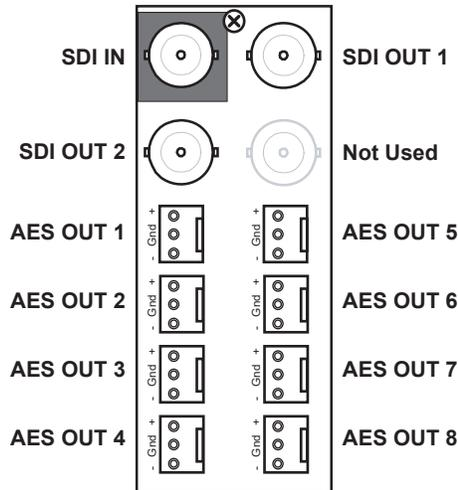
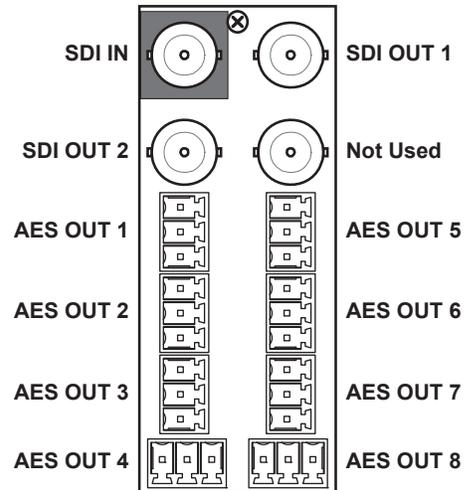

Figure 21 Cabling — 8320AR-062-02
Figure 22 Cabling — 8320AR-062-03
**Figure 21** illustrates the cabling designations for the 8320AR-062-02 rear module. **Figure 22** illustrates the cabling designations for the 8320AR-062-03 rear module.